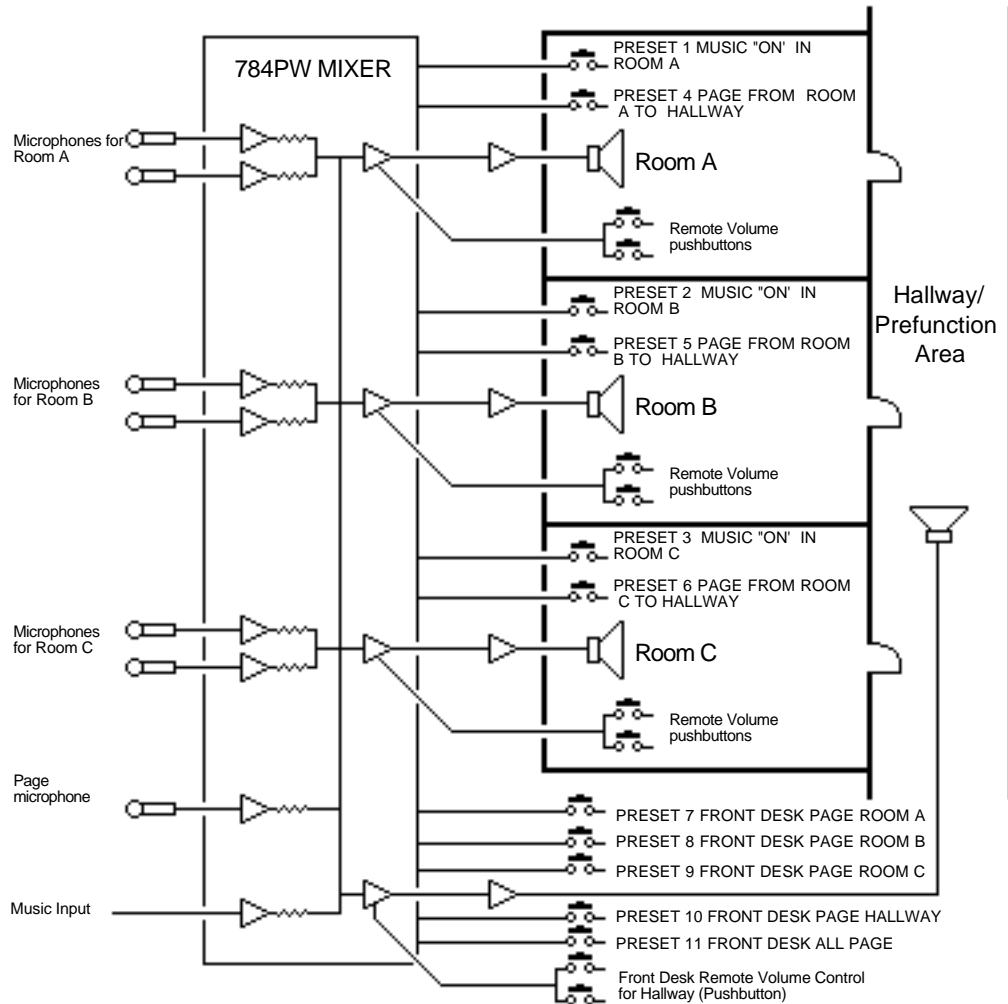
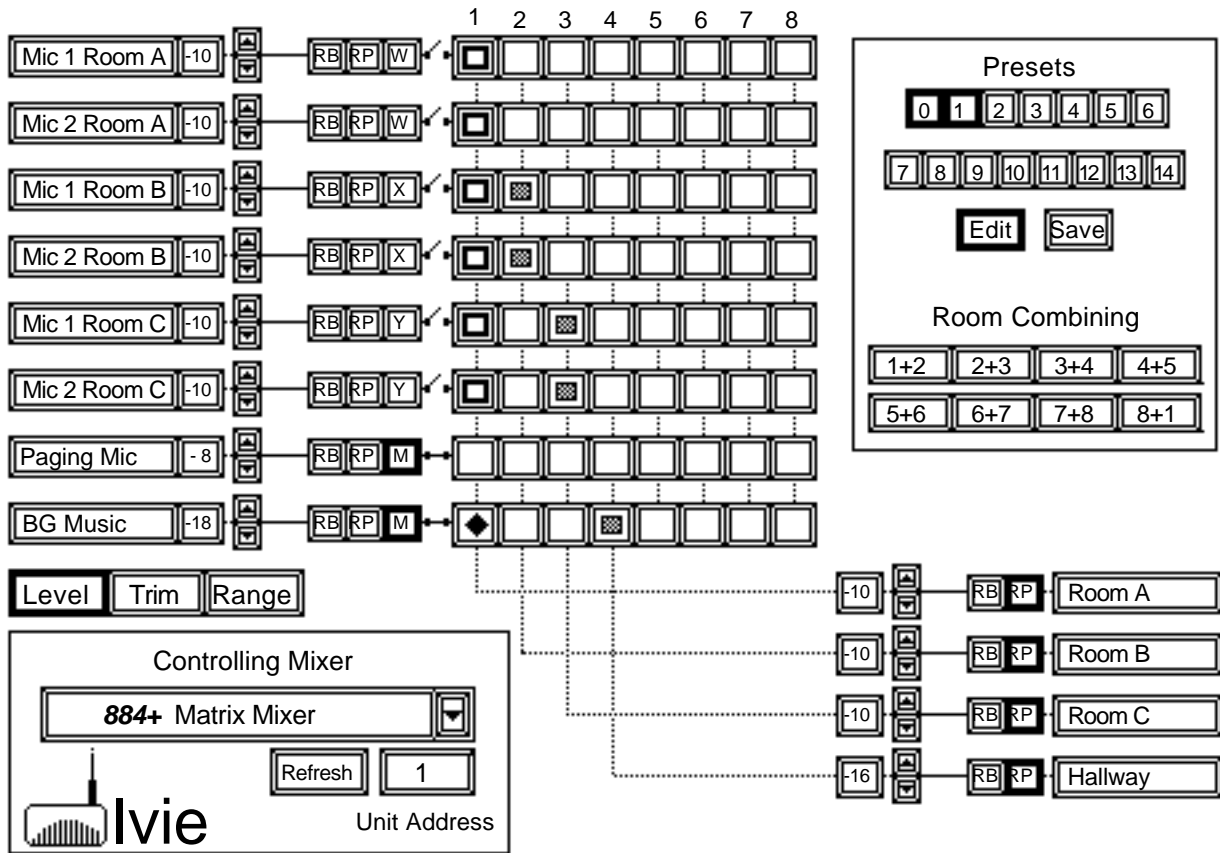
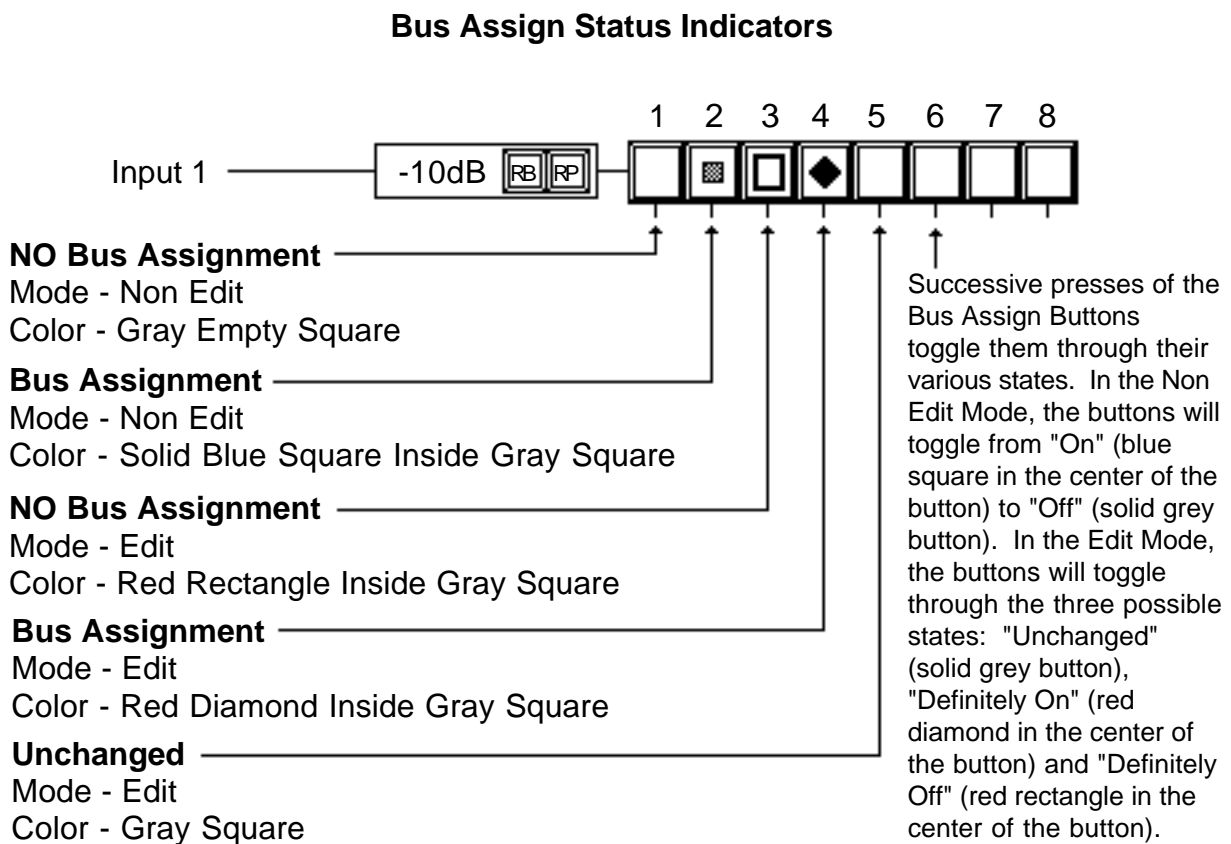

Figure 37
Figure 39
Figure 40
understood. Figure 37 below illustrates a three meeting room application with requirements for paging, room combining, background music and remote control:
The first question to ask when programming Preset 0 is, “What is the normal operating configuration of the system?” Once the answer to this question is known, programming becomes simple. For the system in Figure 37, the normal operating configuration is as follows: Each room has both of its microphones active. Background music is off. The rooms are not combined. The master level control for each room is active. In the hallway, background music is on and the level control for the hallway is active.
is easy. In the application shown in Figure 37, one of the system requirements is a switch in each room that turns on background music and kills the mics. This switch would activate a preset. The programming of that preset (Preset 1) for Room A is shown in Figure 39 below:
2. Press the desired preset button. Notice in Figure 39 that the Edit and Preset 1 Buttons have both been pressed. This indicates that Preset 1 has been selected for programming. *The Edit button must be pressed first.* Pressing the Preset 1 Button first would give an “Activate Preset 1” command instead of an edit or “Program Preset 1” command.
In the Edit mode, all programmed information shows up in red on the ANSW+ software control screen. This provides positive indication that the Edit mode has been selected. In programming Preset 0, a Bus Assign Button is either pressed or not pressed (blue square inside grey button, or no blue square, respectively), but in the Edit mode, three states are possible: 1) Definitely On, 2) Definitely Off, and 3) Unchanged. When modifying Preset 0 (which is exactly what Presets 1 - 14 do) three possibilities exist for a change to a Bus Assign Button: Let it stay the way it was in Preset 0 (Unchanged), or, make the bus assignment (Definitely On), regardless of whether it was made or not made in Preset 0, or definitely do not make the bus assignment (Definitely Off), regardless of whether it was made or not made in Preset 0. Figure 40 below demonstrates these indicators on the Bus Assign Buttons:
As shown in Figure 40, a “Definitely On” bus assignment shows up as a red diamond, while a “Definitely Off” bus assignment shows up as a red rectangle. Referring back to Figure 39, the microphone inputs for Room A have been turned off as part of Preset 1. *However, notice that the*
microphone input to rooms B and C are also turned off. Although these microphones do not normally feed Room A, they would feed A in a room combining situation. If Rooms A and B were combined, the Room A microphones would feed both rooms and the Room B microphones would feed both rooms. The precaution has been taken, in programming Preset 1, of turning off any microphone that may be feeding Room A when background music is turned on. Figure 39 illustrates this clearly.